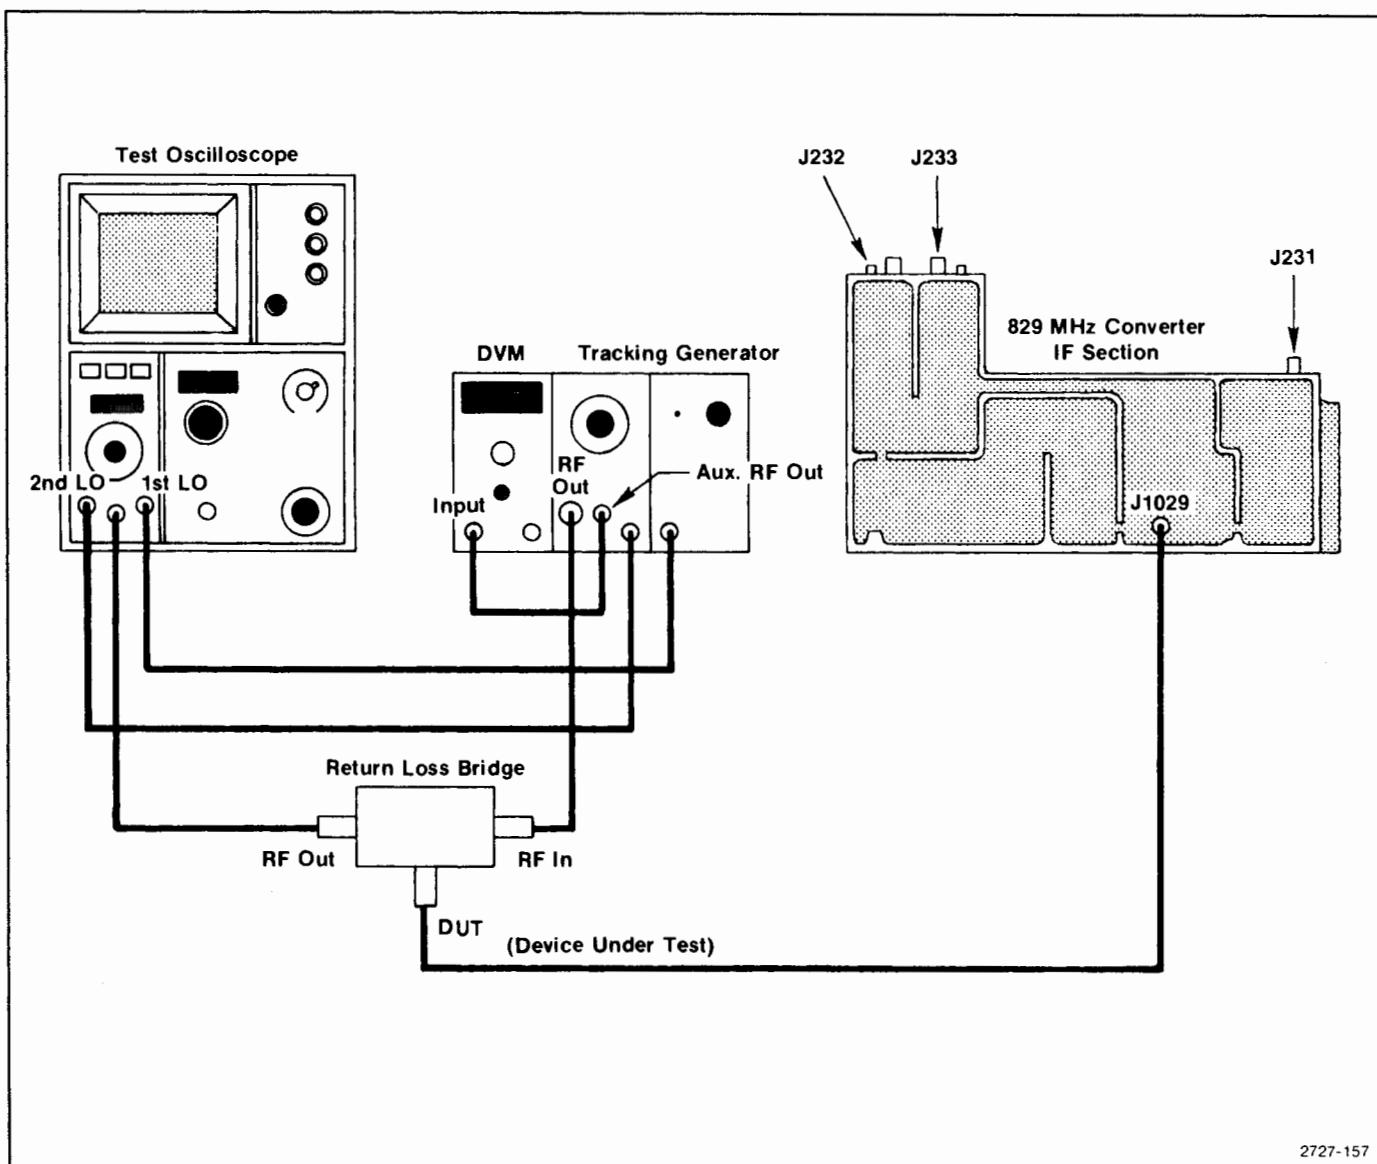

Figure 6-14. 829 MHz filter test equipment setup.
c. Connect the spectrum analyzer, tracking generator, and frequency counter together as a system, with the frequency counter connected to the Auxiliary RF Output of the tracking generator (see Figure 6-14).
d. Connect the spectrum analyzer/tracking generator system through the return loss bridge to the Peltola jack (J1029) on the 829 MHz amplifier board (see Figure 6-14). Reconnect P235 (100 MHz reference signal) and P237 (2182 MHz input) to the LO section of the converter.